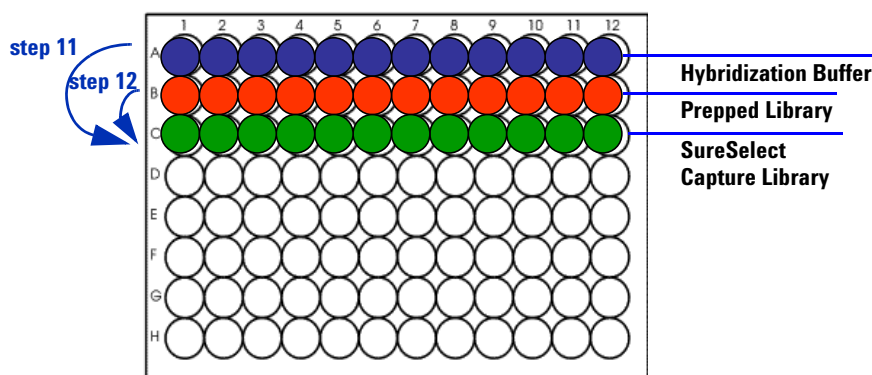

Figure 7 SureSelect Capture Library, or “Baits”, shown in Green
11 Maintain the plate at 65°C while you use a multi-channel pipette to take 13 μ L of Hybridization Buffer from the “A” row and add it to the SureSelect capture library mix contained in row “C” of the PCR plate for each sample. (See Figure 7.)
- 12** Maintain the plate at 65°C while you use a multi-channel pipette to transfer the entire contents of each prepped library mix in row “B” to the hybridization solution in row “C”. (See Figure 7.) Mix well by slowly pipetting up and down 8 to 10 times.